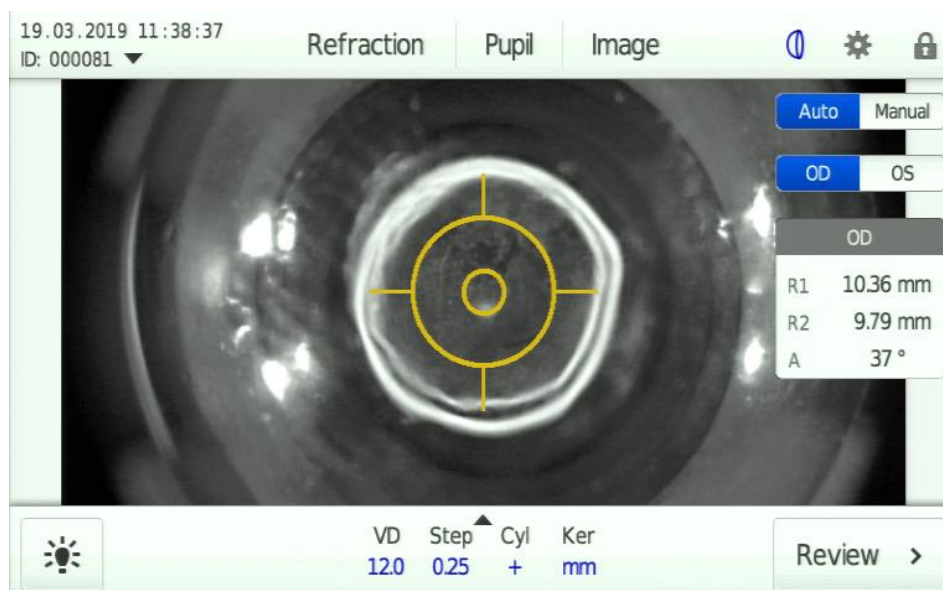

Fig. 52 View of measurement results in the measurement screen of contact lens mode
- The measurement results of the contact lens are displayed in the column on the right side of the screen (Fig. 52).